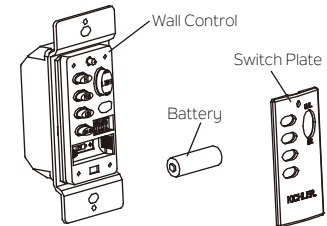

Fig. 14
Step 3. Install the 23A 12V battery (included) with wall control system and make sure it is seated correctly. Replace the switch plate. (Fig. 14)